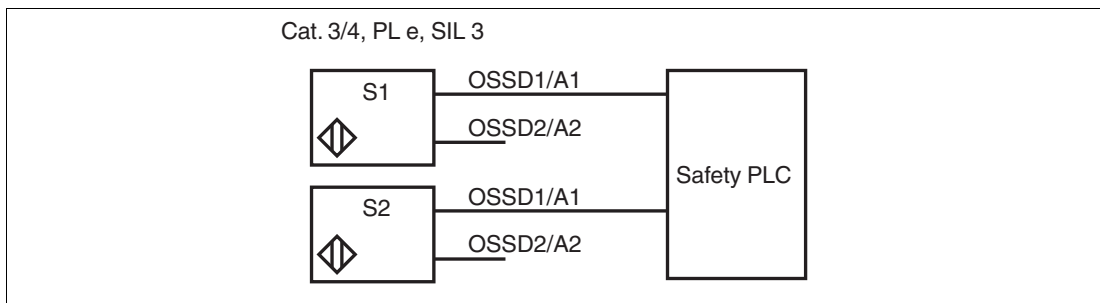

Figure 4.4 Example of a safety loop via the OSSD1 outputs of 2 sensors
- If you are using the sensor in a safety loop for category 3/4, PL e, SIL 3, connect 2 sensors via their OSSD1 outputs, see Figure 4.4. The OSSD2 output is not connected in this application.